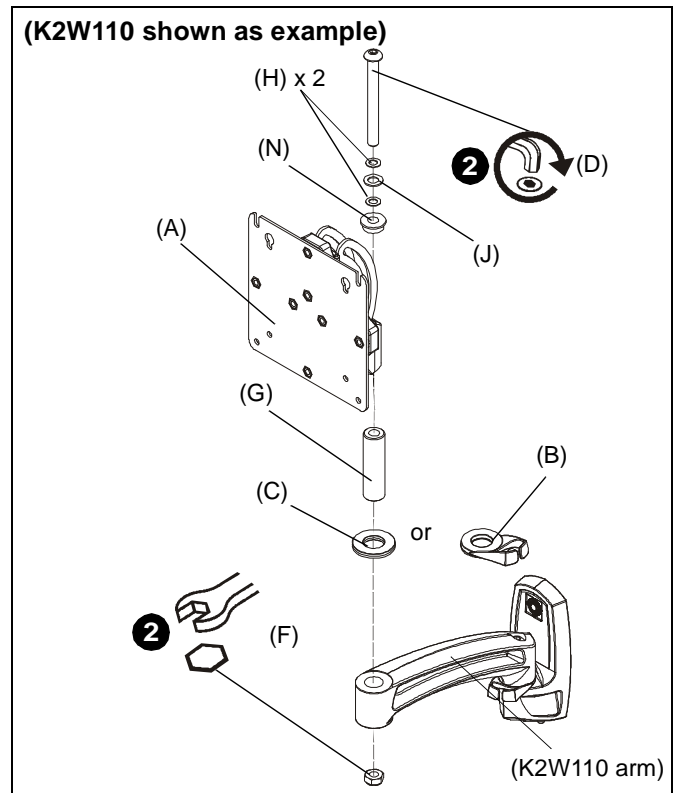

Figure 2
2. Use 5/16-18 x 3 1/8" button head cap screw (D), two thin steel washers (H), plastic washer (J), pivot pin (G), pivot point spacer (C) and 5/16-18" lock nut (F) to secure KRA225 head assembly (A) to Kontour mount. (See Figure 2)
NOTE: Cable clip (B) can be used in place of pivot point spacer (C) if additional cable management is desired. (See Figure 2)